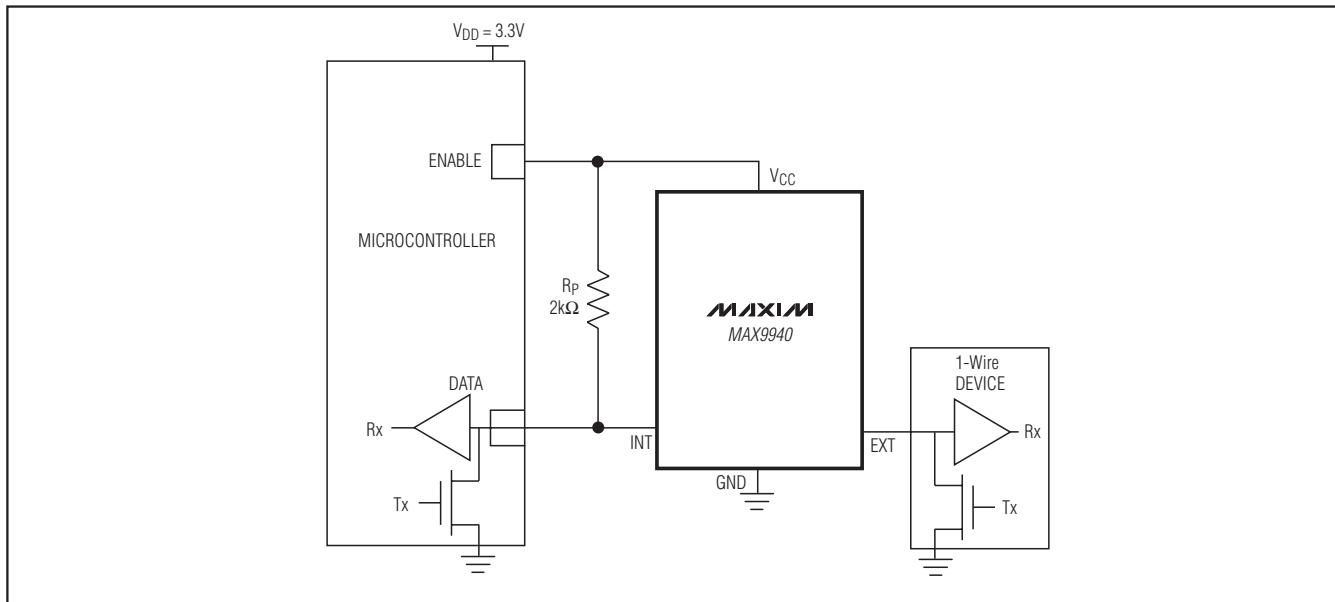

Figure 1. Recommended Scheme for Battery-Operated Devices that Need to Shut Down the MAX9940 and Prevent Power Draw During Short to GND Faults
Figures 1 and 2 show two methods of powering the MAX9940 from an ENABLE digital output port of the microcontroller. Figure 3 shows the conventional method of operating the MAX9940 with both pullup resistor for digital communication on DATA (RP) and VCC being connected directly to VDD of the microcontroller.
Figure 1 shows a recommended configuration for battery-operated devices that need to conserve power both on a continuous basis as well as during short to GND fault conditions. In this scheme, the ENABLE port of a microcontroller supplies the quiescent current for the MAX9940 as well as that required for digital communication (i.e., R_P pullup resistor). By forcing a 0 on the ENABLE digital output port of the microcontroller, the MAX9940 is in a zero-power shutdown mode, while also preventing any power drain to occur in the event of a short to GND fault on EXT. As stated earlier, EXT maintains the ability to withstand DC voltages up to 28V even when V_{CC} = 0.